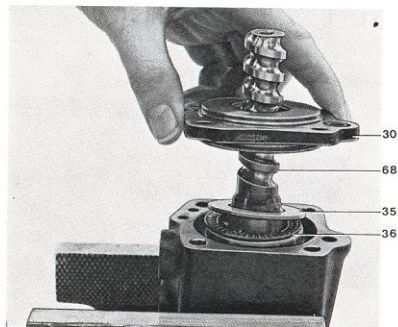
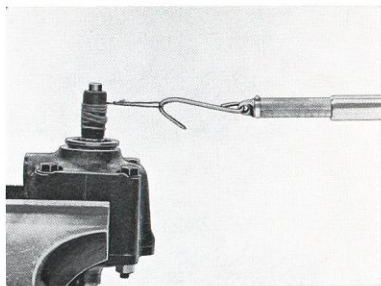

Fig. 6-86. Fitting cover
Fig. 6-87. Checking torque
2. Tighten up the valve housing (56) with the large bore facing upwards (see Fig. 6-86). Fit the preassembled worm in the housing. Fit the needle bearing (36), the bearing washer (35) and the cover (30), see Fig. 6-86. Secure the cover with the help of the bolts (50 and 52) and four nuts M8. Tightening torque is 34 Nm (25 lbft). Check to make sure there is no looseness in the journalling. A torque of $0.15 - 0.25 \text{ Nm}$ ($1.3 - 2.2 \text{ lbin}$) is required to turn the worm. If this is measured according to Fig. 6-87, the scale should give a reading of $17 - 29 \text{ N}$ ($3.7 - 6.4 \text{ lb}$).
Check the worm torque (see Fig. 6-87). This should now be 0.4—0.6 Nm (3.5—5.2 lbin), that is, the balance should give a reading of 45—70 N (10—15 lb). If any other value is obtained, adjust with the shims. Remove the worm and bearing from the valve housing.